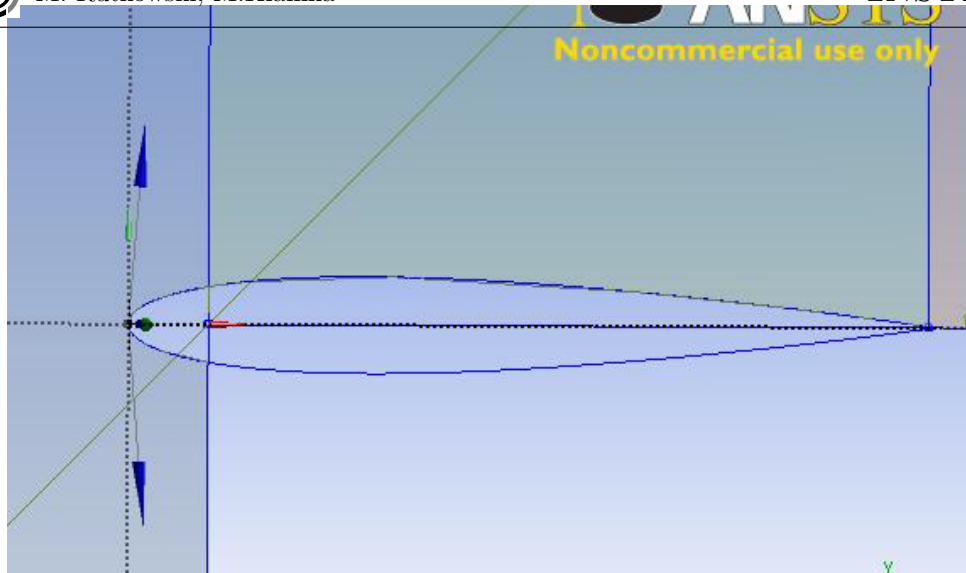

Figure 3: **Fig. 3** Airfoil body subtracted from half of cylinder and rectangular
9. Subtract the airfoil surface from fluid areas surrounding the body (half of circle and rectangle). **Create/Boolean/Subtract**. **Preserve Tool Bodies** set to **No**. See fig. 3